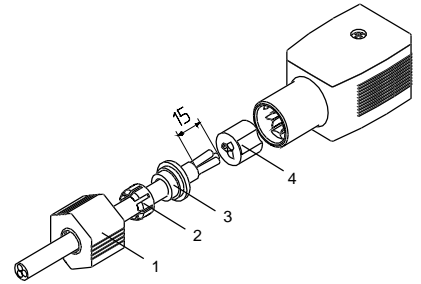

Figure 1: QUICKON Connection of the device socket
- Connect the round cable (3 x 0,75 mm² - 1,5 mm²) as shown in the connection diagram (Figure 1):
- Push on the coupling ring (1), the clamping sleeve (2) and the seal (3)
- Fit the splice ring (4)